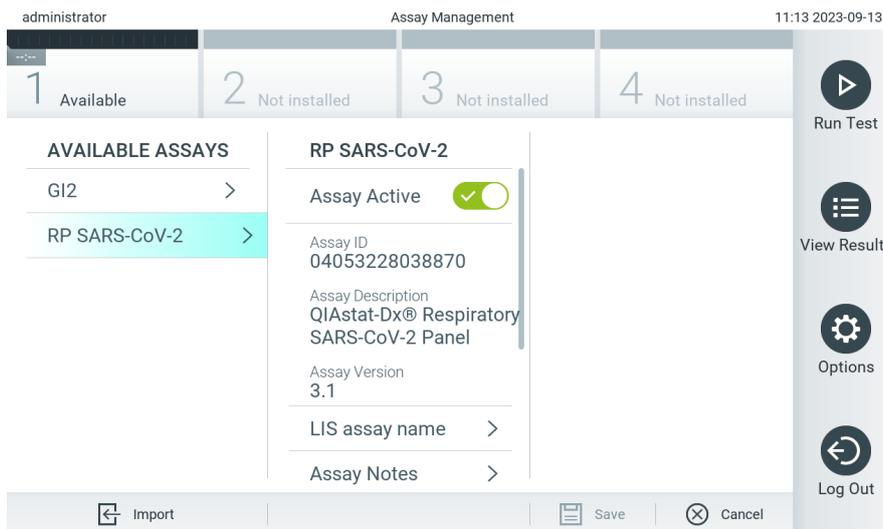

Figure 57. Managing available assays.
1. Press the **Options** button and then the **Assay Management** button to access the **Assay Management** screen. The available assays are listed in the first column of the content area (Figure 57).